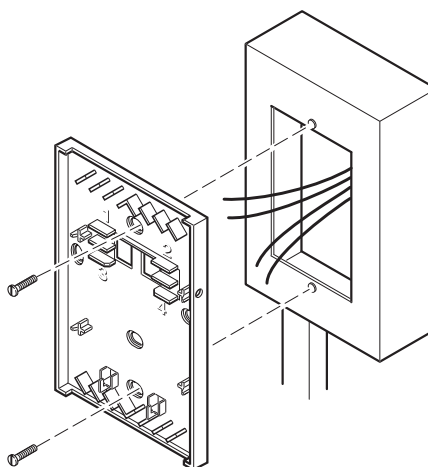

Figure-6 Surface Box Mounting.
4. Using two 6-32 x 5/8 in. flat head screws (not provided), mount base plate to surface box (Figure-6)